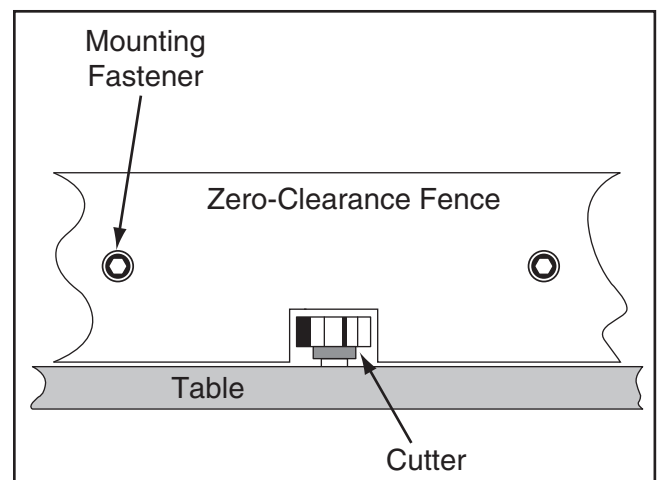

Figure 20. Example of a zero-clearance fence.
4. Cut an outline of the spindle and router bit from the center of the stock selected in **Step 3**, as illustrated in **Figure 20**.